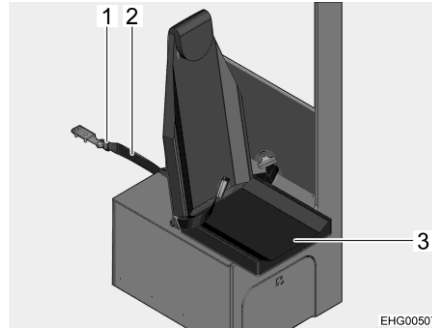

Fig. 31 Securing the attachable seat
- Plug retaining belt (Fig. 31,2) into the seatbelt lock (Fig. 31,1).
- Fold down the seat (Fig. 31,3).